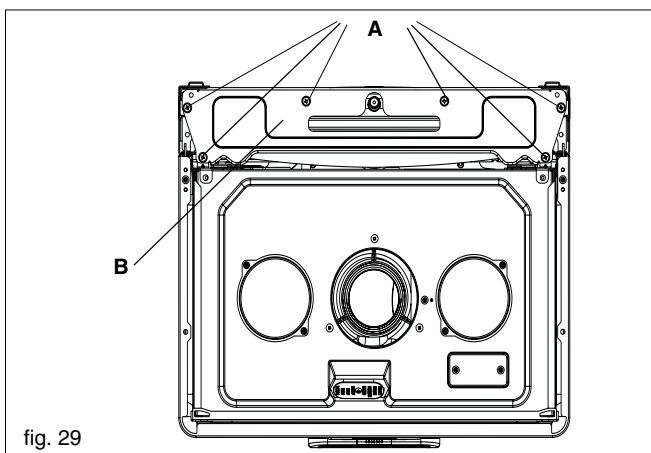

fig. 29
6.18.1 EXPANSION VESSEL REMOVAL (with sufficient clearance above, fig. 29)